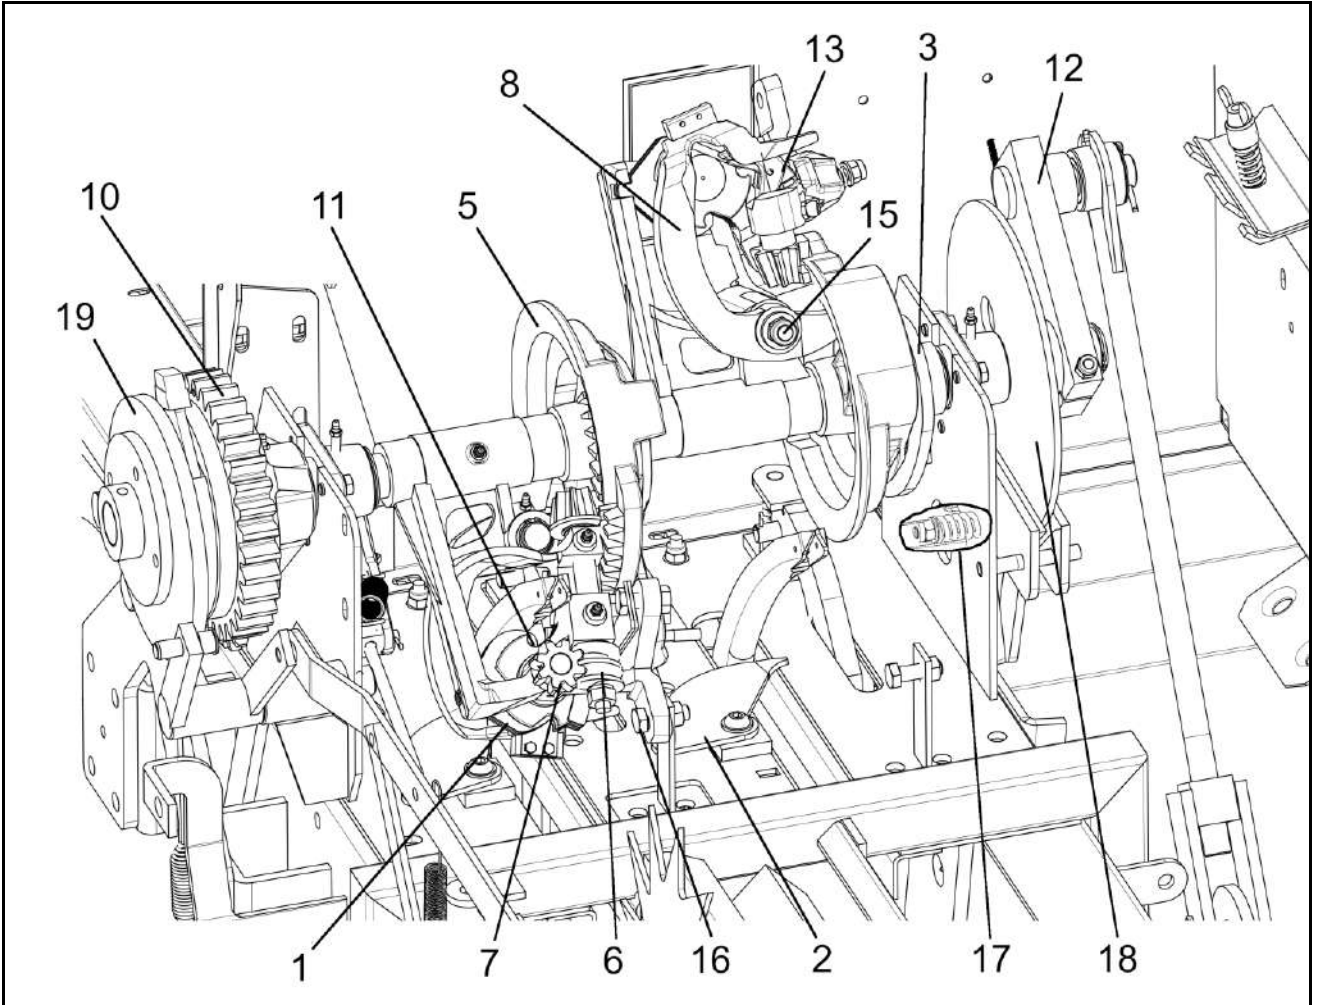
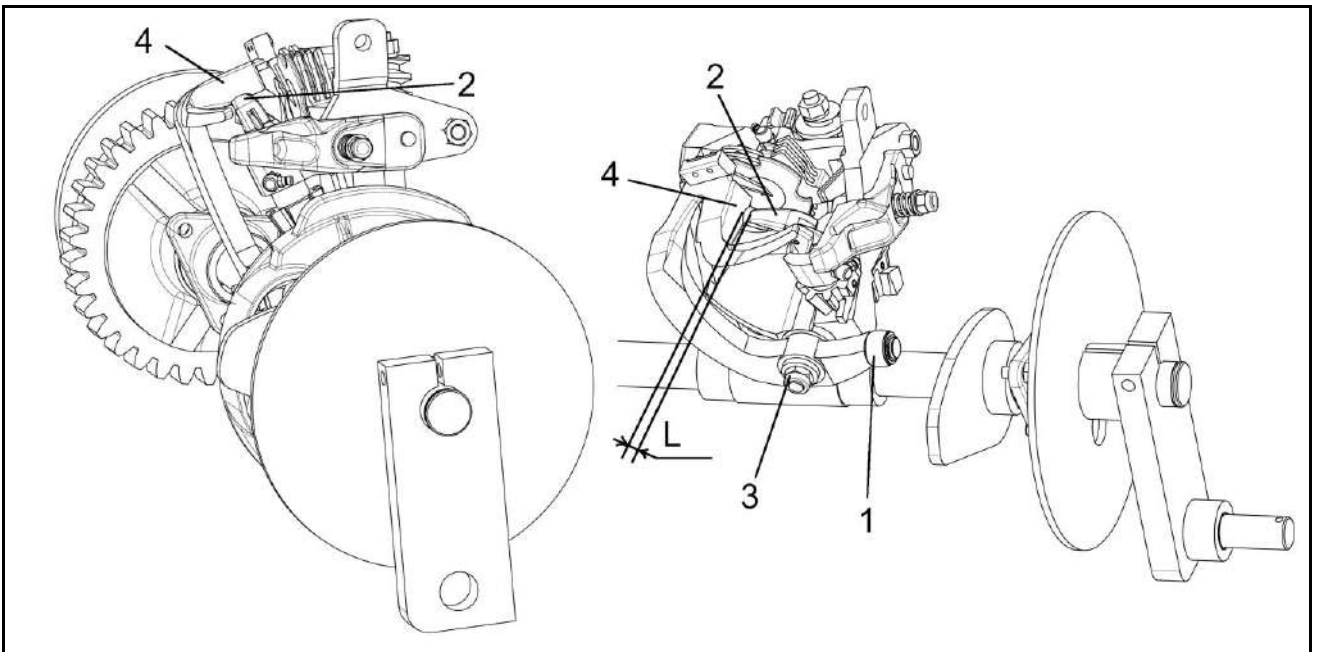

Fig. 7.19
Fig. 7.20
The ejector arms and knife holder (ref. 8 Fig. 7.19) must cut the excess twine and pull the knots out of the knotting billhooks.
- 1) In its movement, the ejection tongue (ref. 4, Fig. 7.20) must rub with a slight pressure against the back of the knotting billhook (ref. 2, Fig. 7.20).
- 3) During the ejection movement, the tongue must go beyond the tip of the billhook by no less than 6 mm and no more than 12 mm (ref. L, Fig. 7.20).
To check the adjustment of the ejector arms and to sharpen the knives, remove the bolts (ref. 16, Fig. 7.19) from the knotter assembly concerned and lift it upward as shown with the right knotter (Fig. 7.19). This operation must be done with the needles in the rest position.
To make adjustments 1 and 2, bend the ejector arm in the desired direction. It is not necessary to remove the ejector arm nut (ref. 15, Fig. 7.19 / ref. 3, Fig. 7.20) for adjustments 1 and 2.
If the parameters given in point 3 are not found due to wear or impact, it is necessary to replace the roller (ref. 1, Fig. 7.20) mounted on the ejector arm or to replace the complete ejector arm or, after having disassembled the entire knotter, repair or replace the cam with the knotter control disc (ref. 5, Fig. 7.19).